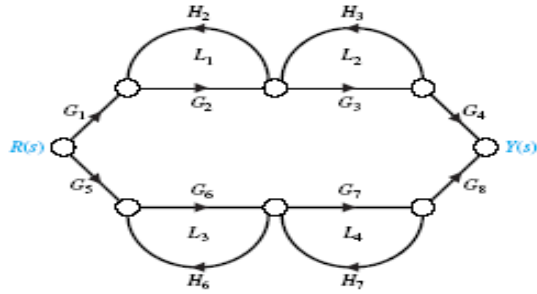

Figure: 2
| Q 8 | <p>(A) An industrial application uses the block diagram for temperature control as shown in Figure: 1. Find the overall transfer function using block diagram reduction techniques..</p>  <p style="text-align: center;">Figure: 1</p> <p>(B) Obtain the overall closed loop transfer function of the graph shown in Figure:2 by using signal flow graph.</p> | 6+4 | CO2, CO3 |
| <p>Q 9</p> | <p>Determine the transfer function C/R for the block diagram below by signal flow graph techniques shown in Figure:2</p>  <p style="text-align: center;">Figure:2</p> | <p>10</p> | <p>CO2</p> |